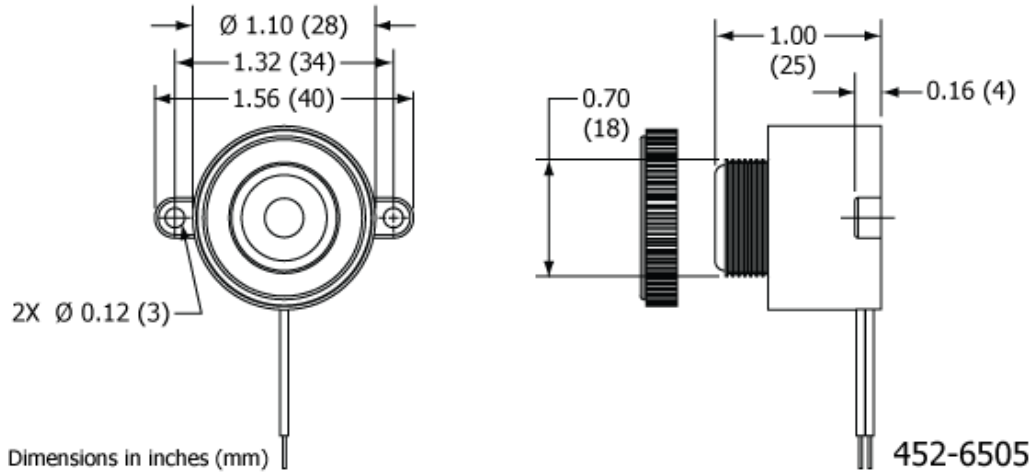

Figure 17 Buzzer Outline and Dimensions
- 2) Fabricate a support bracket for the buzzer. See Figure 17 Buzzer Outline and Dimensions.